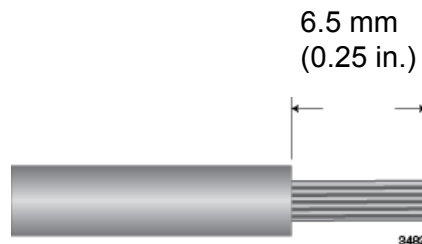

Figure 29. Stripping the Stranded Grounding Wire
1. Strip an adequate amount of insulation from one end of the ground cable, for the ring lug. The amount may vary depending on the type of ring lug, but 6.5 mm (0.25 in) is typically sufficient. Refer to Figure 29.